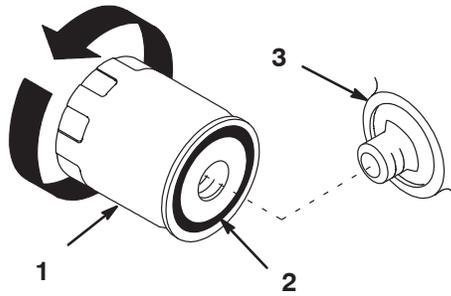

Figure 34
- Remove the old filter and wipe the filter adapter (Fig. 34) gasket surface.
- Apply a thin coat of new oil to the rubber gasket on the replacement filter (Fig. 34).
- Install the replacement oil filter to the filter adapter. Turn the oil filter clockwise until the rubber gasket contacts the filter adapter; then tighten the filter an additional 1/2 turn (Fig. 34).